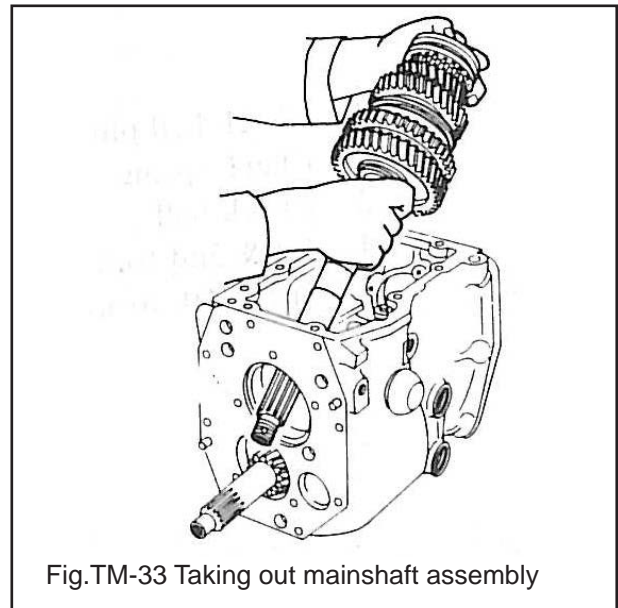

Fig.TM-33 Taking out mainshaft assembly
11. Take out main shaft assembly through the opening in transmission case. See Figure TM-33.